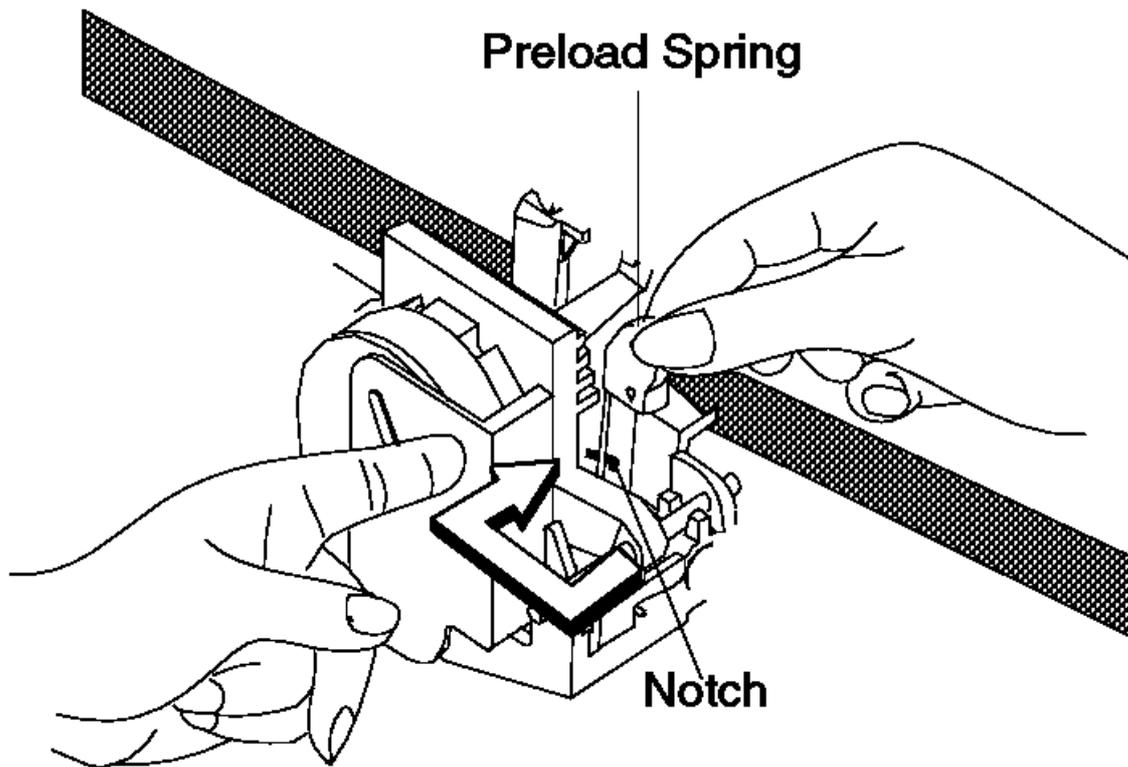

Figure 5-2. Print Head Preload Spring
2. Open the printer cover and ensure that the print head preload spring is holding the print head against the platen. See Figure 5-2.
T7152	<ol style="list-style-type: none"> 1. Ensure that the print head preload spring is in position to hold the print head against the platen. See Figure 5-2 in topic 5.2. To exchange the print head preload spring, see topic 5.5.19. 2. Lubricate the carriage shaft, wear plate, and print head guide rods with #6 oil or equivalent. See "Lubricant Equivalents" in topic D.2. Saturate the carrier oil wick with #6 oil or equivalent. 3. Exchange the print head carriage motor and check the motor pulley for cracks. See topic 5.5.21. 4. Exchange the print head carriage drive belt. See topic 5.5.20. 5. Check the print head home sensor. See topic 5.6. <ul style="list-style-type: none"> <input type="checkbox"/> If the print head home sensor is failing, exchange it. See topic E.9. <input type="checkbox"/> If the print head home sensor is not failing, adjust it. See topic 5.5.2. 6. Exchange the printer card. See topic 5.5.22.
W305	<ol style="list-style-type: none"> 1. Ensure that the print head preload spring is in position to hold the print head against the platen. See Figure 5-2 in topic 5.2. To exchange the print head preload spring, see topic 5.5.19. 2. Lubricate the carriage shaft, wear plate and print head guide rods with #6 oil or equivalent. See "Lubricant Equivalents" in topic D.2. Saturate the carrier oil wick with #6 oil. 3. Exchange the print head carriage motor and check the motor pulley for cracks. See topic 5.5.21. 4. Exchange the print head carriage drive belt. See topic 5.5.20. 5. Check the print head home sensor. See topic 5.6. <ul style="list-style-type: none"> <input type="checkbox"/> If the print head home sensor is failing, exchange it. See topic E.9. <input type="checkbox"/> If the print head home sensor is not failing, adjust it. See topic 5.5.2. 6. Exchange the printer card. See topic 5.5.22.
The printer does not print.	<ol style="list-style-type: none"> 1. Ensure that the print head is properly connected to the printer card. 2. Exchange the print head. See topic 5.5.17. 3. Ensure that the print head preload spring is in position to hold the print head against the platen. See Figure 5-2 in topic 5.2. To exchange the print head preload spring, see topic 5.5.19. 4. Exchange the ribbon cartridge. See topic 5.5.23.